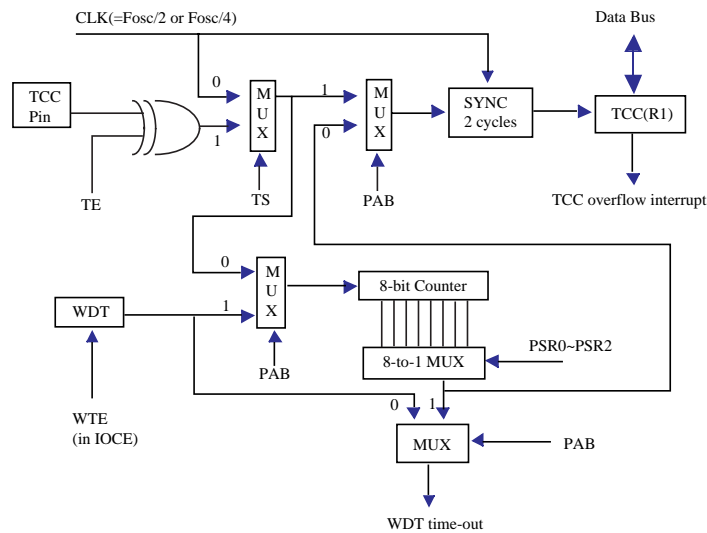

Fig. 6 Block diagram of TCC and WDT
There is an 8-bit counter available as prescaler for the TCC or WDT. The prescaler is available only for either the TCC or the WDT at the same time and the PAB bit of the CONT register is used to determine the prescaler assignment. The PSR0~PSR2 bits determine the ratio. The prescaler will be cleared by the instructions which write to TCC each time, when assigned to TCC mode. The WDT and prescaler, when assigned to WDT mode, will be cleared by the WDTC" and "SLEP" instructions. Fig. 6 depicts the circuit diagram of TCC/WDT.
- R1(TCC) is an 8-bit timer/counter. The clock source of TCC can be internal clock or external clock input (edge selectable from TCC pin). If TCC signal source is from internal clock, TCC will increase by 1 in every instruction cycle (without prescaler). Refer to Fig. 6, $CLK=Fosc/2$ or $CLK=Fosc/4$ is depended on the CODE option bit CLKS. $CLK=Fosc/2$ if CLKS bit is "0", and $CLK=Fosc/4$ if CLKS bit is "1".